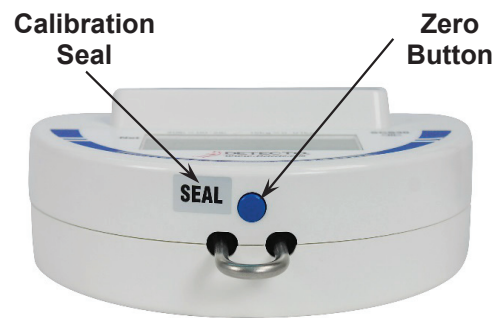

Figure No. 3
2. Referring to Figure No. 3, press the Zero Button to zero scale.
1. Remove the calibration seal to expose the Test Pins. See Figure No. 3 on the previous page for the seal location.